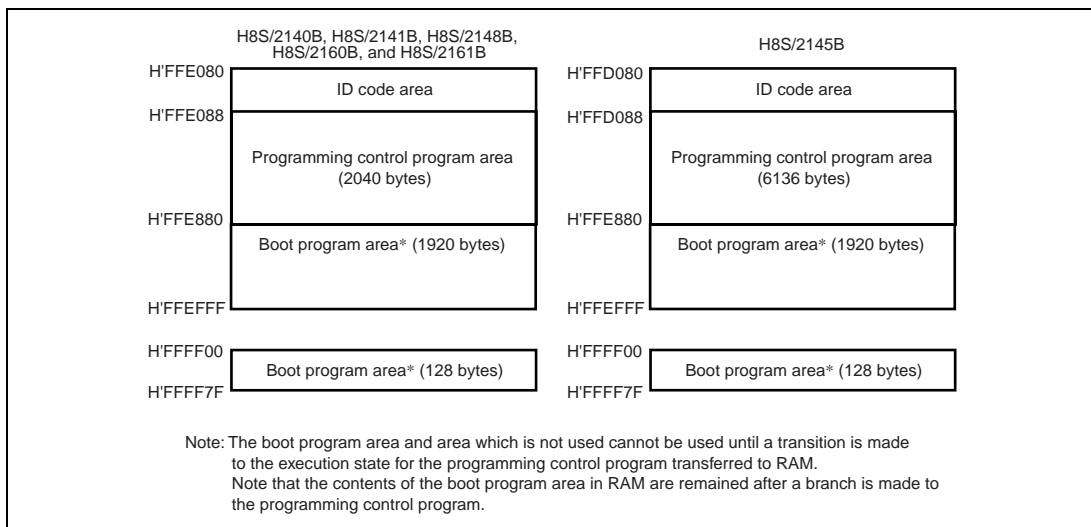

Figure 23.8 On-Chip RAM Area in Boot Mode
5. In boot mode, a part of the on-chip RAM area is used by the boot program. Addresses H'FFE080 to H'FFE87F*¹ is the area to which the programming control program is transferred from the host. Note, however, that ID codes are assigned to addresses H'FFE080 to H'FFE087*². The boot program area cannot be used until the execution state in boot mode switches to the programming control program. Figure 23.8 shows the on-chip RAM area in boot mode.
6. Before branching to the programming control program (H'FFE088*³ in the RAM area), this LSI terminates transfer operations by the SCI_1 (by clearing the RE and TE bits in SCR to 0), but the adjusted bit rate value remains set in BRR. Therefore, the programming control program can still use it for transfer of write data or verify data with the host. The TxD1 pin is in high-level output state. The contents of the CPU general registers are undefined immediately after branching to the programming control program. These registers must be initialized at the beginning of the programming control program, since the stack pointer (SP), in particular, is used implicitly in subroutine calls, etc.